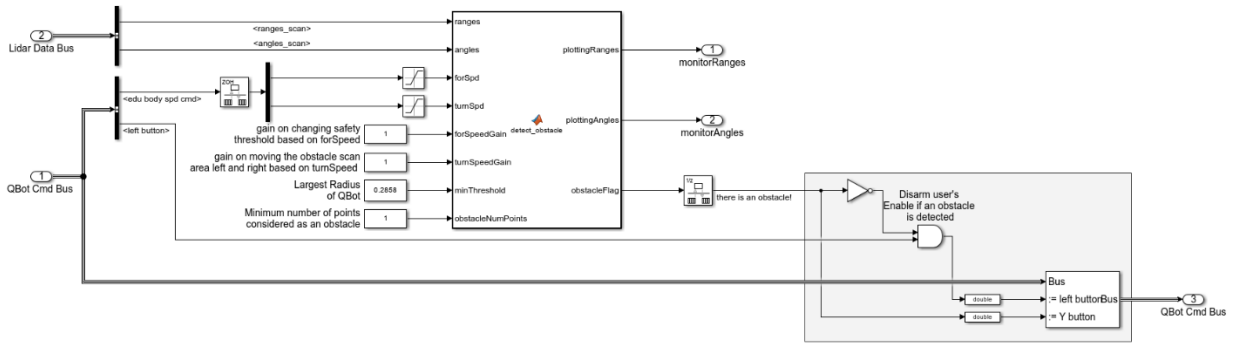

Figure 4. Obstacle Detection via Lidar block
1. Go back to the main Simulink model and open **Obstacle Detection via Lidar** subsystem, as shown in Figure 4. This subsystem uses the LiDAR measurement to determine when the QBot should stop to avoid collision with an obstacle. In this lab, you will implement a simple obstacle detection algorithm using the **MATLAB Function** block labeled **detect_obstacle**.